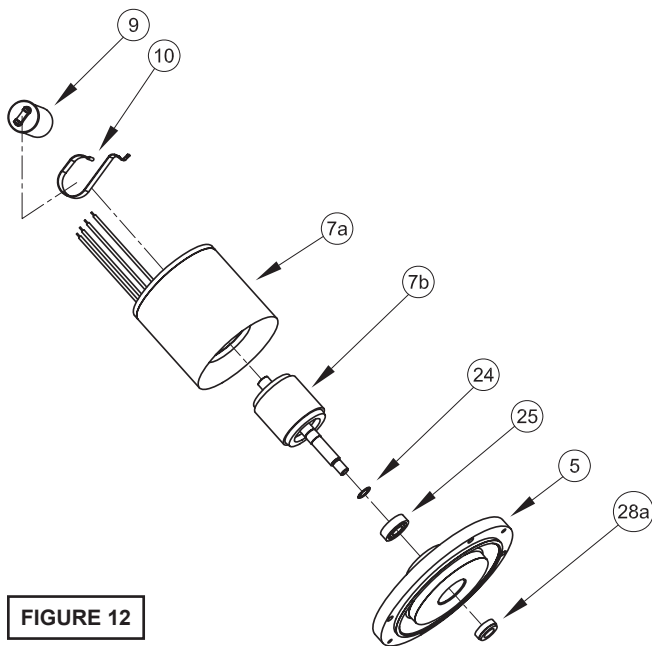

FIGURE 12
Check power cords (16) and control cord (56, if used), for cracks or damage and replace if required (see Figure 12). Make internal wiring connections which are independent of the terminal block as shown, using connectors (48) and wire assemblies (49) as required. **Do not** use wire nuts. Slip motor leads and ground wire into fiberglass sleeve. Lower motor housing (6) down onto seal plate (5) while aligning holes and stringing motor leads through the cord entry bore(s). (Slipping cords inside a 1 ft. length of .5" conduit makes this easier). Place socket head cap screws (47) through seal plate (5) into motor housing (6) and torque to 60 in-lbs.